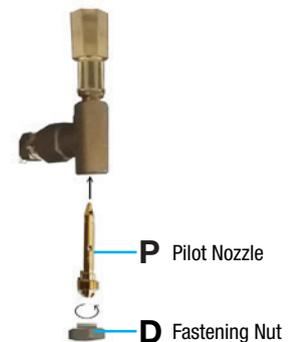

Fig.9.
1. Adjust the nozzle “P” (Fig.9), by unscrewing the fastening nut “D”